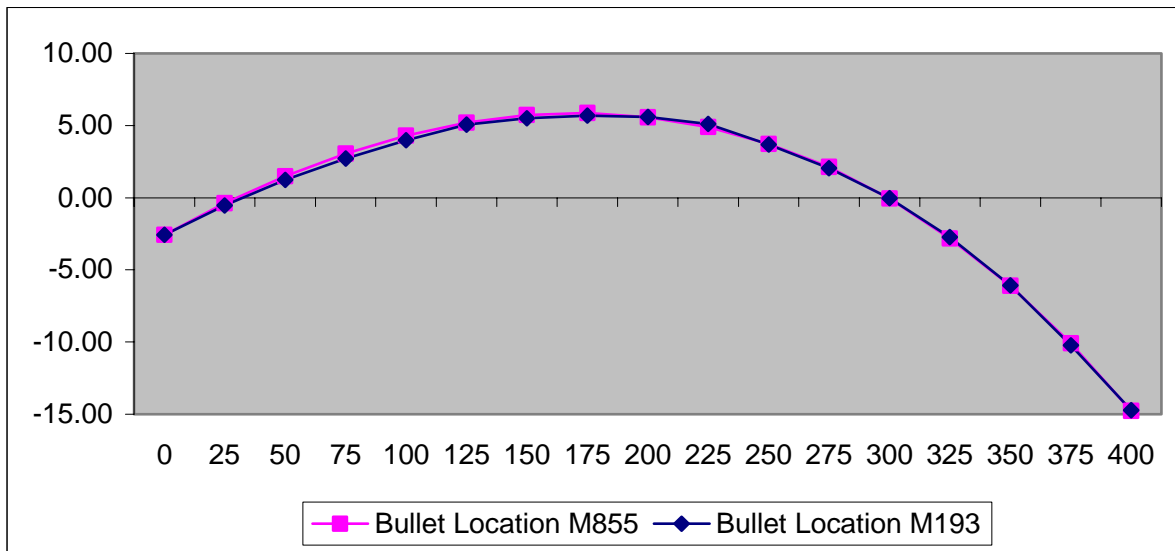

Figure 5-34. M855 zeroed at 300 meters; M193 re-zeroed at 300 meters.
*(6) As stated previously M193 and M855 ammunition can be fired from an M16A2-/A4-series weapon. Table 5-5 and Figure 5-34, page 5-34, show the difference between a rifle zeroed with M855 ammunition and then re-zeroed with M193 ammunition at 300 meters. There is practically no difference between the trajectory of the rounds or the impact of the rounds on target.